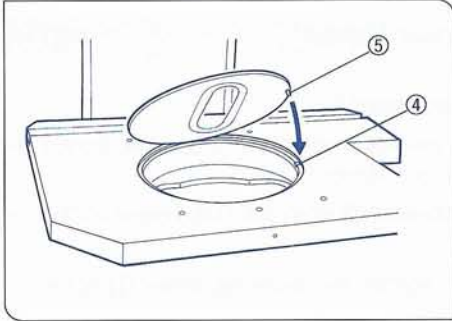

Fig. 4
Attach the stage plate by aligning the stage pin hole on the stage (4) with the guide pin (5) on the stage plate. (Fig. 4)